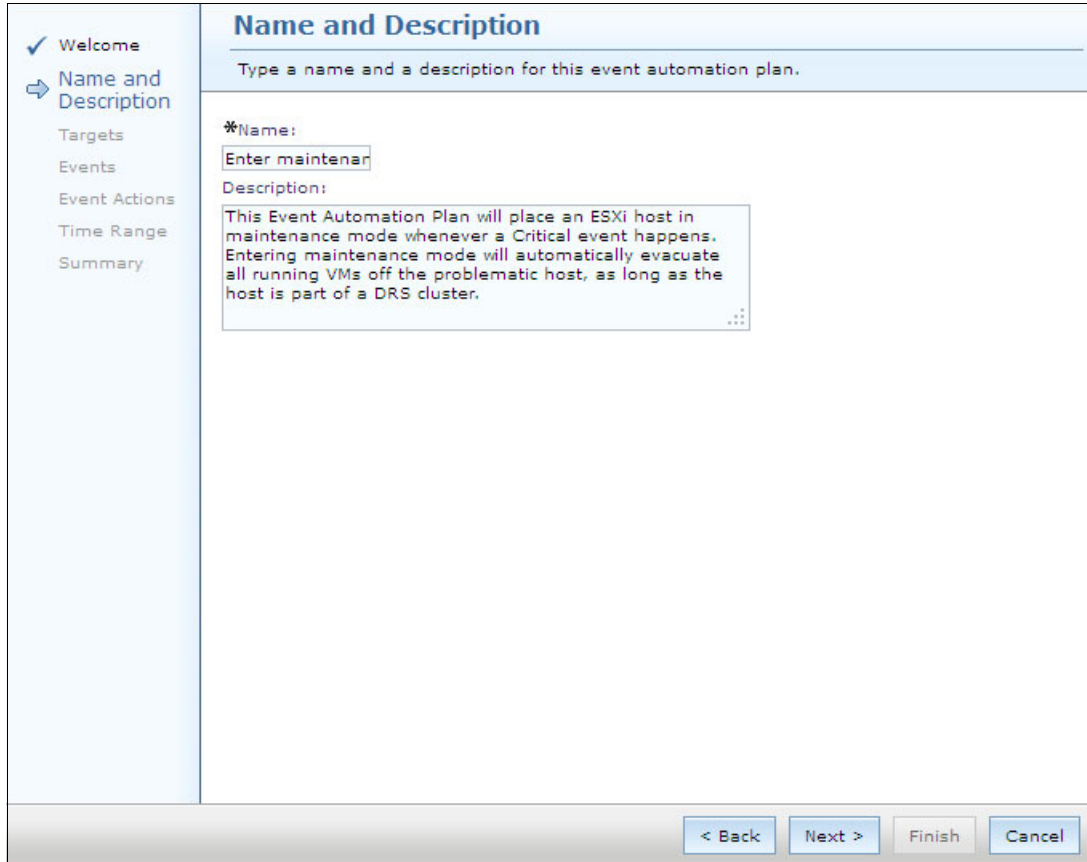

Figure 11-68 Create Event Automation Plan Wizard Name and Description window
3. Enter a name and description for the automation plan, as shown in Figure 11-68.